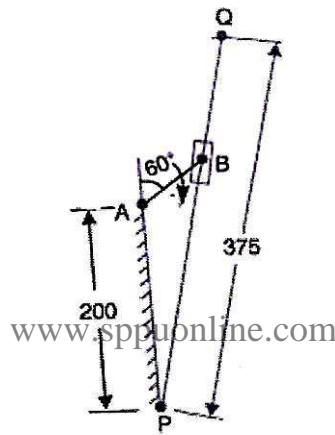

Fig. 4
- (b) The driving crank AB of length 75 mm for the quick return mechanism, as shown in Fig. 4 revolves at a uniform speed of 200 r.p.m. Find acceleration of point Q, for the configuration shown, when the crank makes an angle of 60° with the vertical line of centers PA. [11]